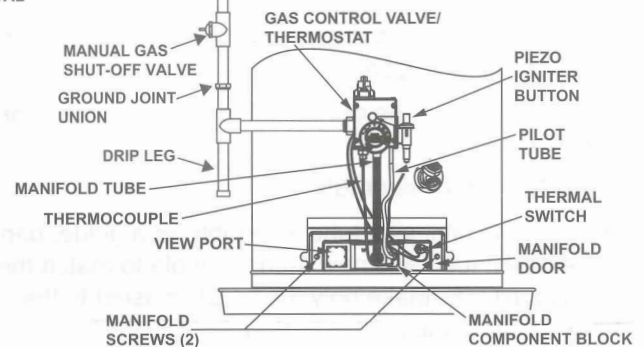

FIGURE 2
5. Disconnect the thermocouple (right-hand thread), pilot tube, the igniter wire from the igniter button, the two wire leads attached to the thermal switch, and manifold tube at the gas control valve/thermostat. (Figures 2.)
3. Lift the retainer clip straight up from the back of the manifold component block (using a flat-blade screwdriver), then remove the manifold component block from the manifold door (Figure 2). **IMPORTANT:** Be careful not to bend or alter the position of the pilot tube. It will be used as a bending template for the new pilot assembly.